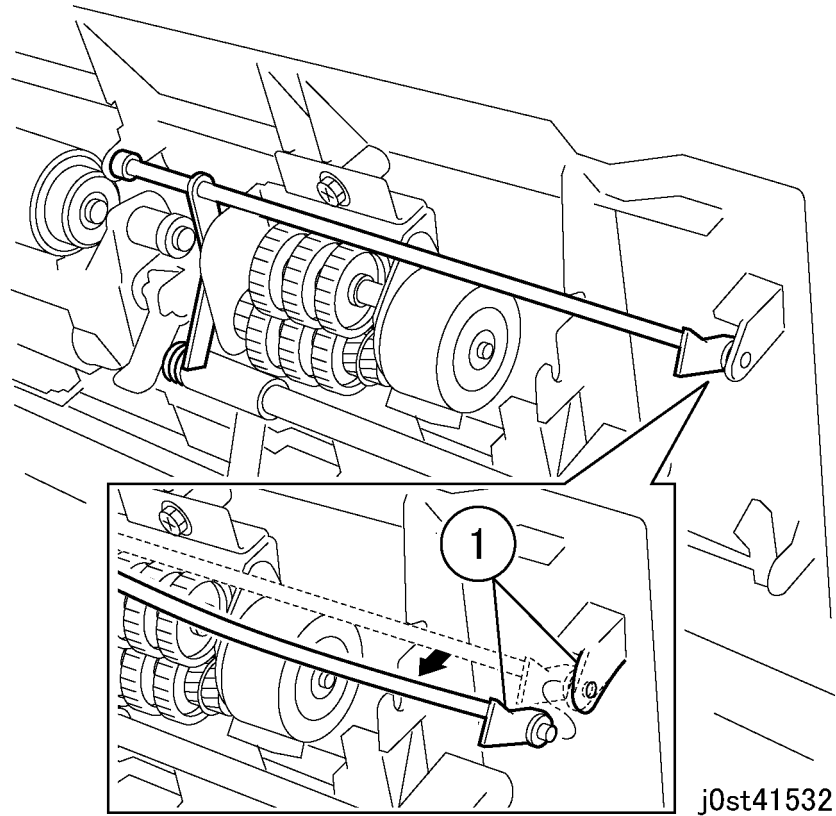

Figure 2 Removing the actuator (j0st41532)
- Remove the actuator while deforming the support and actuator (1) and place it aside to prevent damaging it during this removal procedure. (Figure 2)